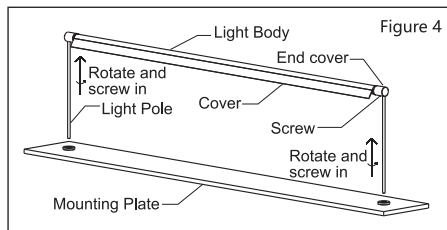

Figure 4
2. Screw the light pole into the lamp cover in sequence. Loosen the screws on the lamp cover to adjust the light projection direction of the fixture. After adjustment, securely tighten the screws, as shown in Figure 4.